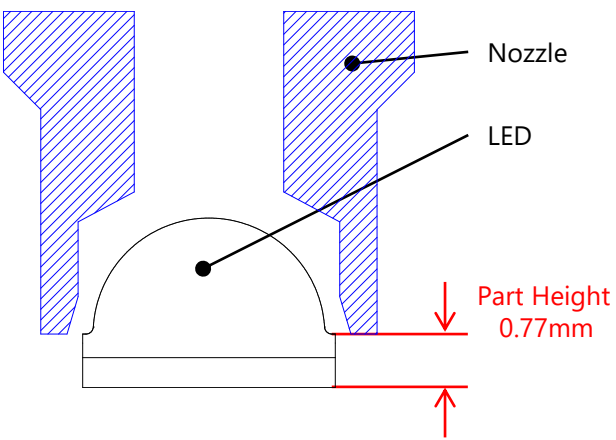

Figure 3. Cross-sectional view of a nozzle when transporting a LED to a PCB
2. As shown in Figure 3, the nozzle tip should only touch the flat corners of the LED's top surface to hold the LEDs. Ensure that it does not come in contact with the lens. The LEDs uses a silicone resin for the lens and internal pre-coating resin; the silicone resin is soft. If pressure is applied to the lens, it may cause the lens to be damaged, chipped and/or delaminated. If the lens is damaged, chipped, delaminated and/or deformed, it may cause the internal connection to fail causing a catastrophic failure (i.e. the LED not to illuminate) and/or reliability issues (e.g. the LED to corrode and/or to become dimmer, the color/directivity to change, etc.) Ensure that no amount of pressure is applied to the lens.